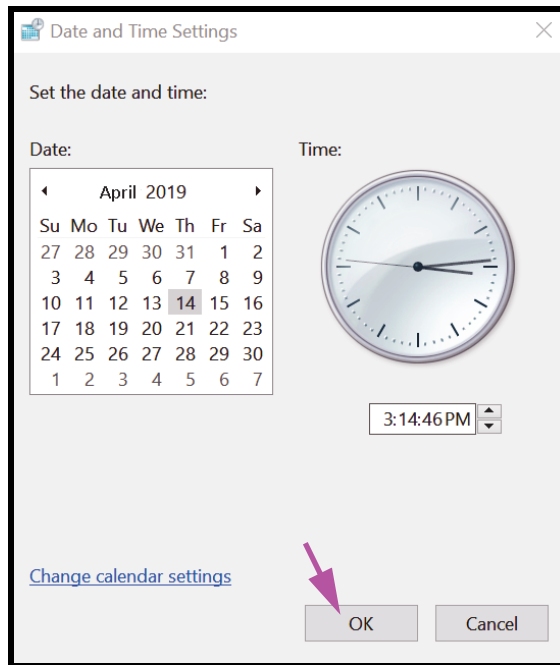

Figure 2-13. Date and Time Settings Dialog Box
2. Click the **Change Date and Time...** button. The Date and Time Settings dialog box appears. See Figure 2-13.